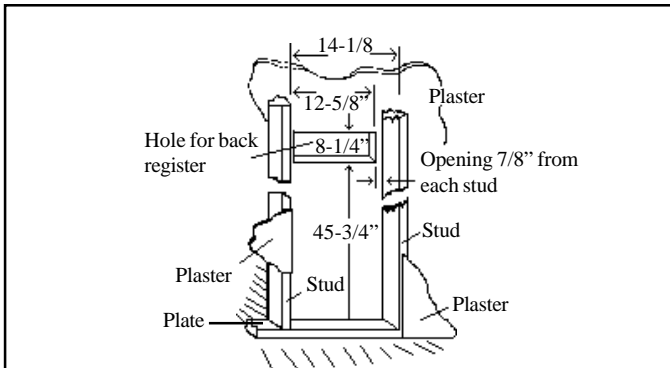

FIG. 6 - ROUGH-IN DIMENSION FOR REAR REGISTER
(Figures 6 and 7 line drawings of rear register opening)
STEP 1. Cut hole in the back wall 8-1/4" high by 12-5/8" wide. The lower edge of the hole to be 45-3/4" above the floor plate as shown in Figure 6.